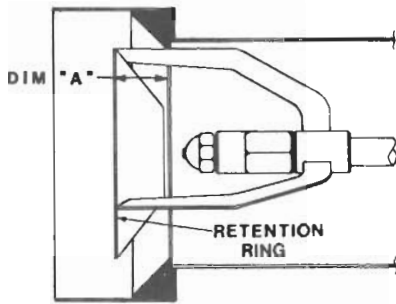

Figure 7. Dimension "A".
The retention ring position ahead of the throttle ring is adjustable from zero (flush) to 1/4 inches (Dimension "A," Figures 7 and 8). Turning the adjusting screw (clockwise) increases the distance "A" ahead. This distance is indicated by lifting the housing cover and reading the scale on the nozzle line across the corners on sides of the channel guiding the nozzle line. Each division is 1/16 inch.
3. The retention ring will now be 1/8-inch ahead of the throttle ring. (See "A" dimension, Figure 7.)
If the fire is a little too rich, move the combustion head forward by increasing dimension "A," Figures 7 and 8. At the lower inputs, a very slight change is usually enough. **DO NOT ALTER THE LINKAGE. IT IS PRE-SET AT THE FACTORY.**